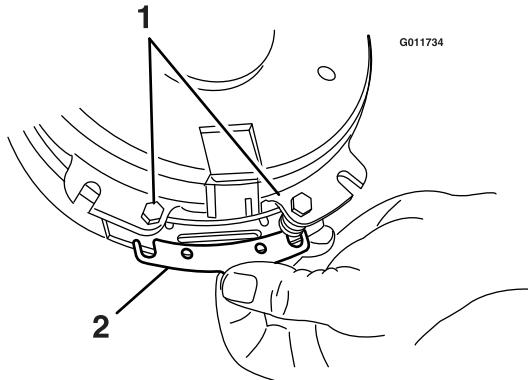

Figure 36
- A. Loosen both brake mounting bolts one-half to one full turn (see Figure 36).